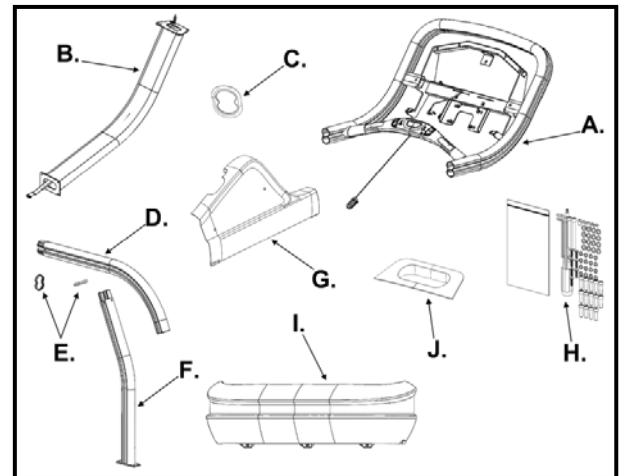

Fig. 3
3. Move all unattached components off the TreadClimber base (Fig. 3).